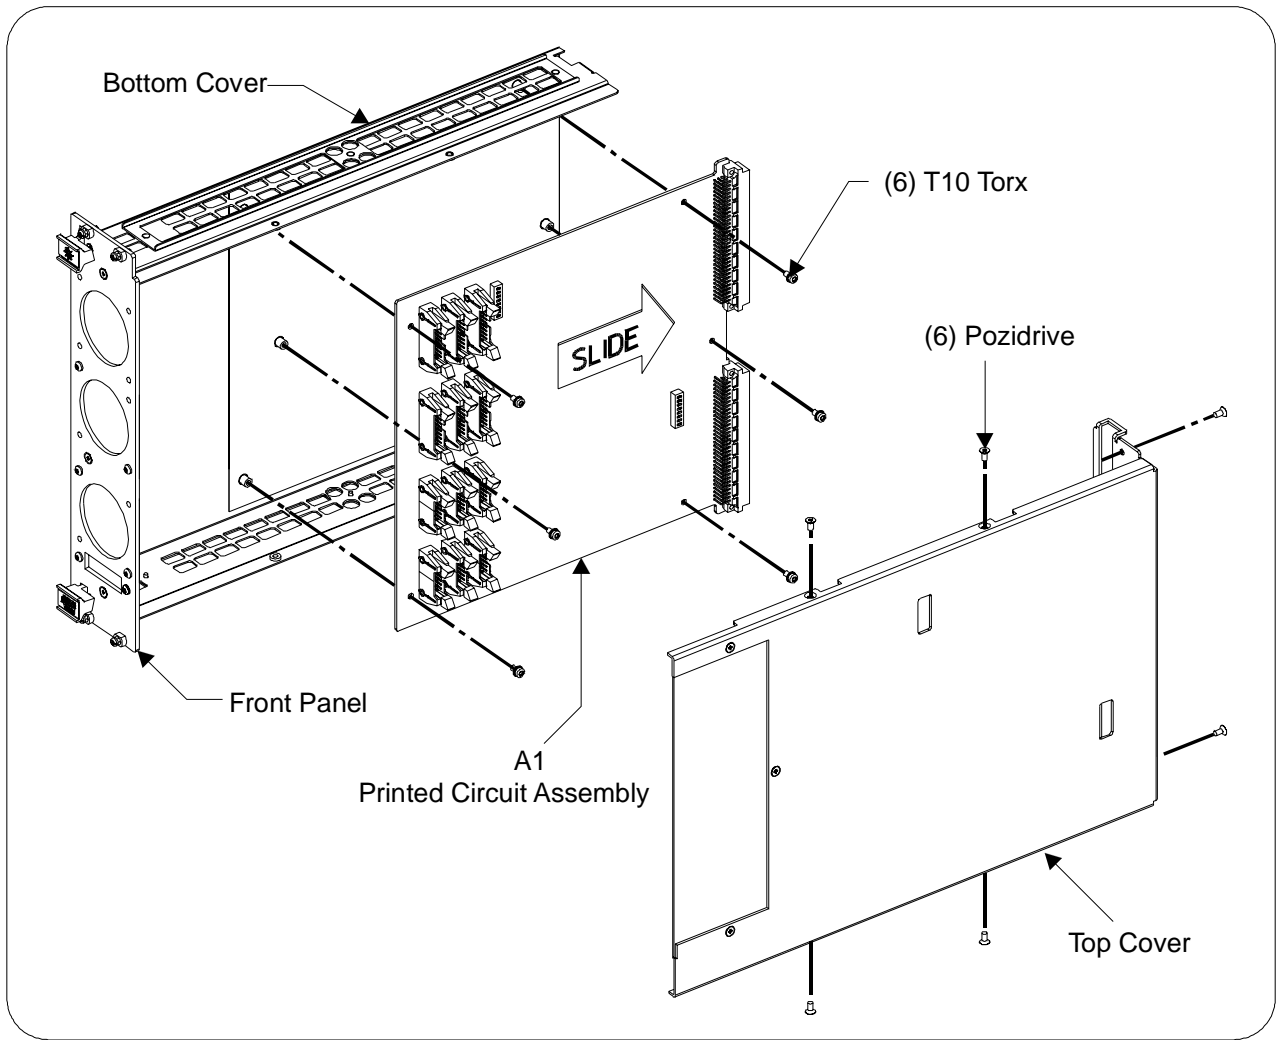

Figure 3-2. Agilent E8483A Module Disassembly
Use the following procedures to disassemble the Agilent E8483A Microwave Switch/Attenuator Driver module (see Figure 3-2).
- Remove the six Pozidrive screws from the top cover as shown in Figure 3-2.
- Remove the six T10 Torx screws holding the A1 assembly to the bottom cover as shown in Figure 3-2.